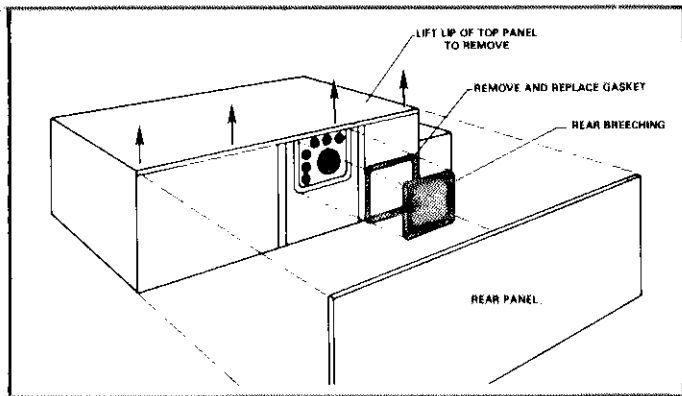

FIGURE 18
- 5 - Re-assemble the unit. It is recommended that the rear breaching gasket be replaced when re-assembling the heat exchanger. Refer to Figure 18.